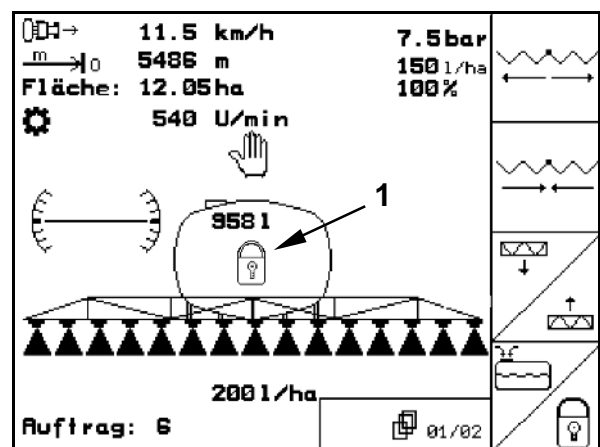

Fig. 137
- In the operational menu appears the closed lock symbol (Fig. 137/1) when the swing compensation is locked.